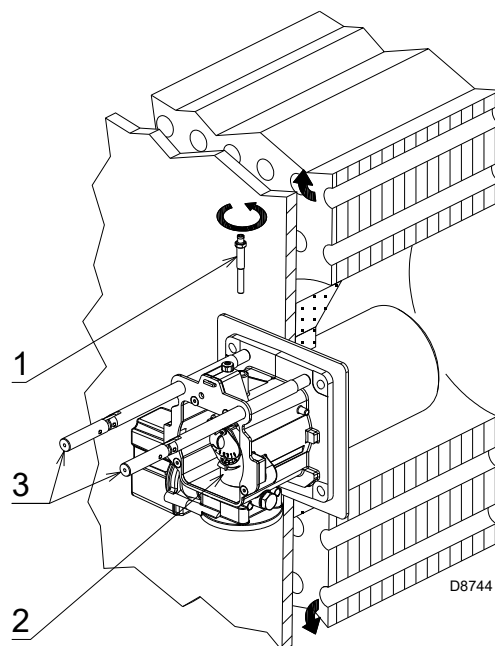

Fig. 14
- remove the screw 1)(Fig. 14);
- extract the inner part 2)(Fig. 14) of the head, and adjust them.